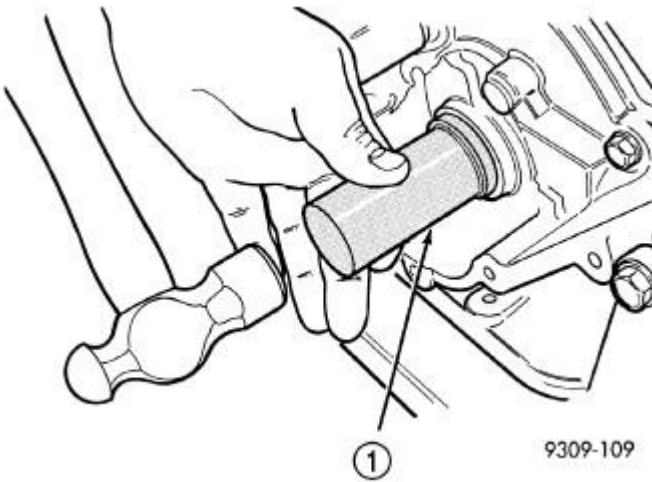

Fig. 370: Crankshaft Oil Seal With Special Tool 6342 - Installation
1. Install crankshaft seal using Special Tool (special tool #6342, Installer, Seal) (1). Refer to **Fig. 370**.